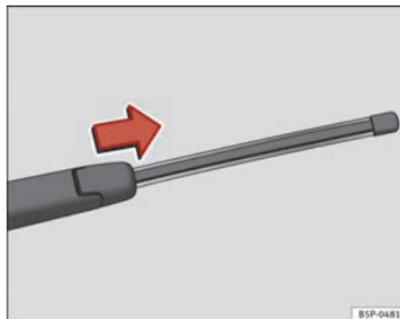

Fig. 131 Removing the rear window wiper blade
- Lift the wiper arm away from the glass ⇒ fig. 131.
- Slide the blade adapter in the direction of the arrow and remove the blade ⇒ fig. 131.